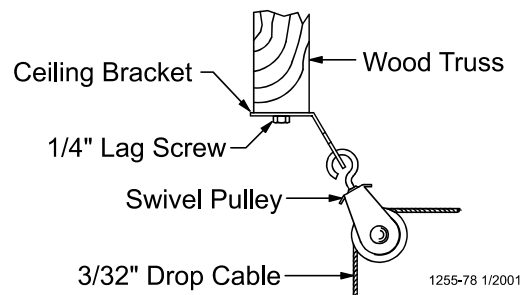

Figure 20. Pulley Installation
- After securing the Ceiling Hook to the truss, slide the hook of a Swivel Pulley into the slot, as shown in **Figure 20**.
- Thread the end of the 3/32" or 1/8" cable through the pulley toward the winch. Clamp this end to the 3/16" winch cable about 6" [150 mm] from the last pulley, using a 3/16" cable clamp. See applicable figure; **Figure 18**, or **Figure 20**.